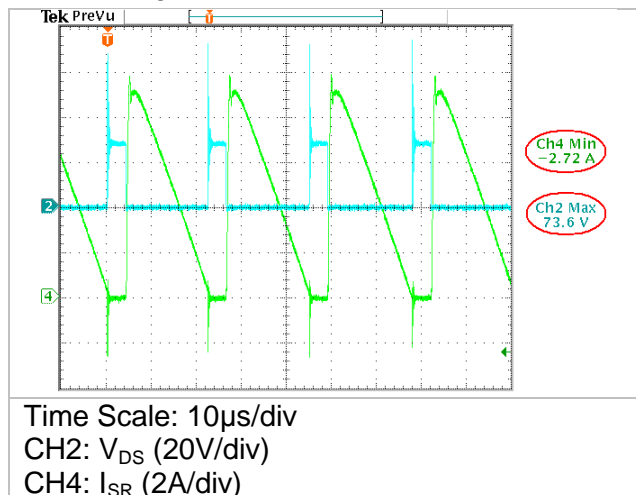
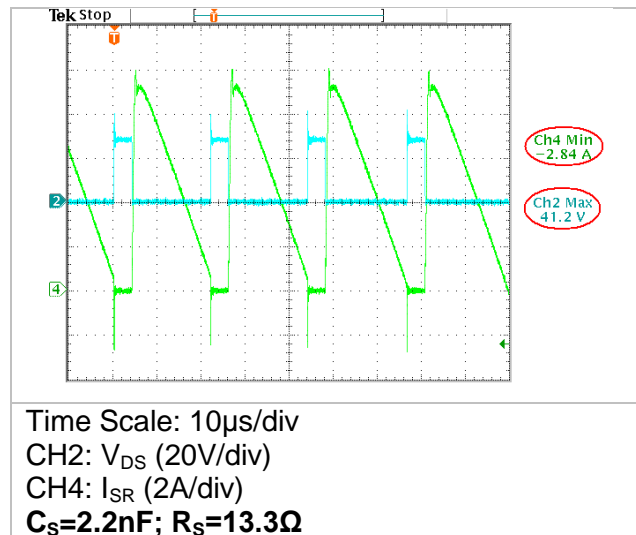

Figure 16 — Maximum Voltage Spike during Start-Up at High Line Input
Figure 17 — Maximum Voltage Spike during Start-Up at High Line Input with RC Snubber
Figure 16 shows the bench test result of the maximum voltage spike and reverse current (I_{rr}) during system start up at high-line input without RC snubber applied. Also based on the specification of this 20W Flyback converter, we can get:
From (14), R_s can be calculated which is $\sim 13.3\Omega$. So connect the RC snubber network as $C_s=2.2nF$ & $R_s=13.3\Omega$, the maximum voltage spike on SR FET during system start-up at high line input is showed in figure 17, we can find over 30V voltage spike is damped by the RC snubber compared with in figure 16.